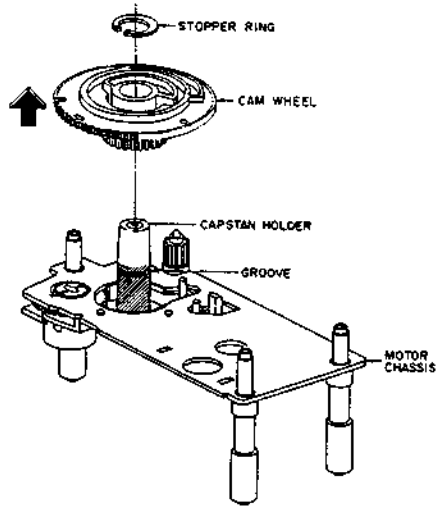

Fig. 3-12
- 2) Remove the stopper ring from the capstan holder. Pull off the cam wheel. (Refer to Fig. 3-12.)